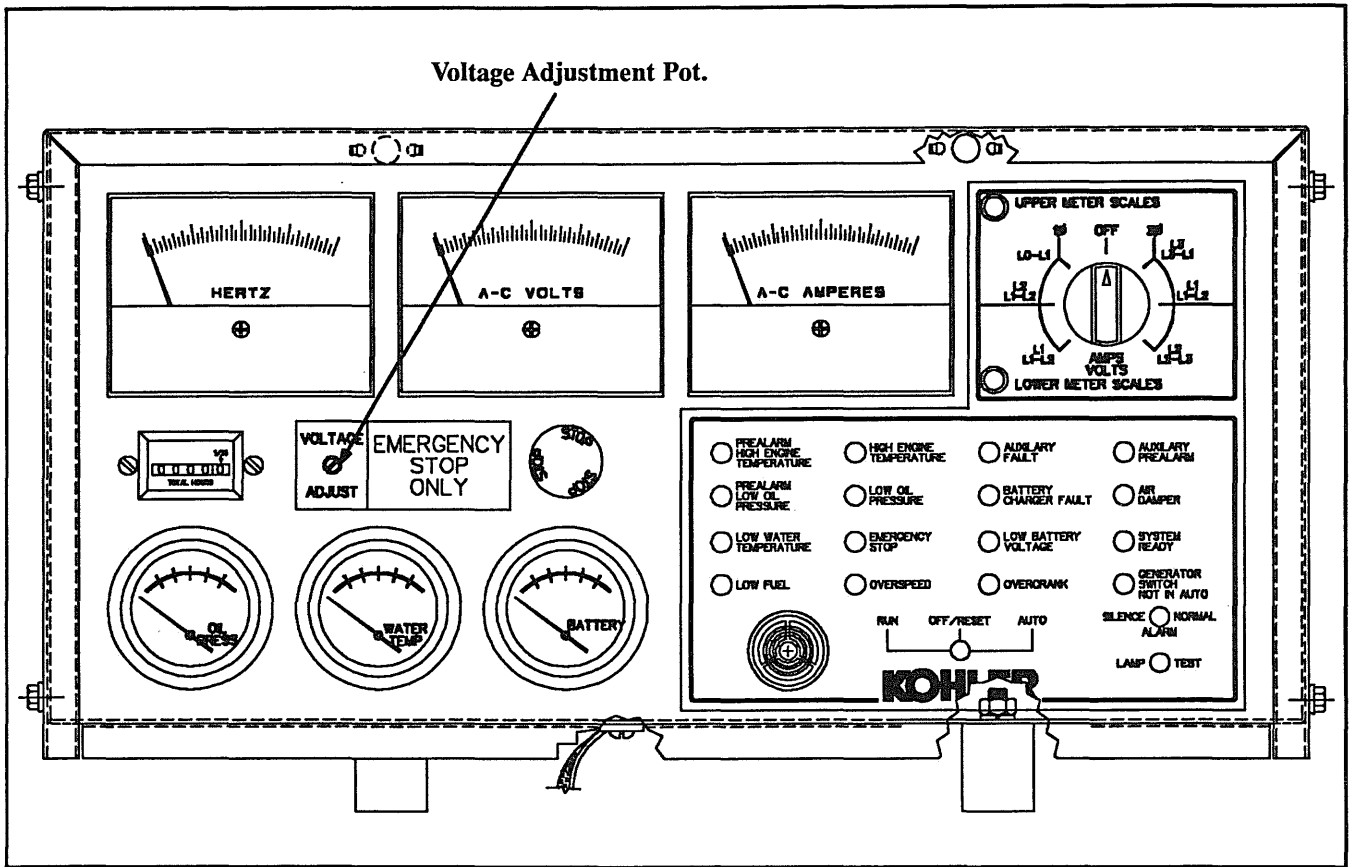

Figure 6-4. Voltage Adjustment - Typical
7. Reconnect starting battery, negative lead last. Move generator master switch to the RUN position (Dec-3 Controllers) or press START switch (Manual Controller) to start the generator set. Check voltmeter for proper voltage. Adjust voltage, if necessary, with the Voltage Adjustment on the controller front panel. See Figure 6-4.